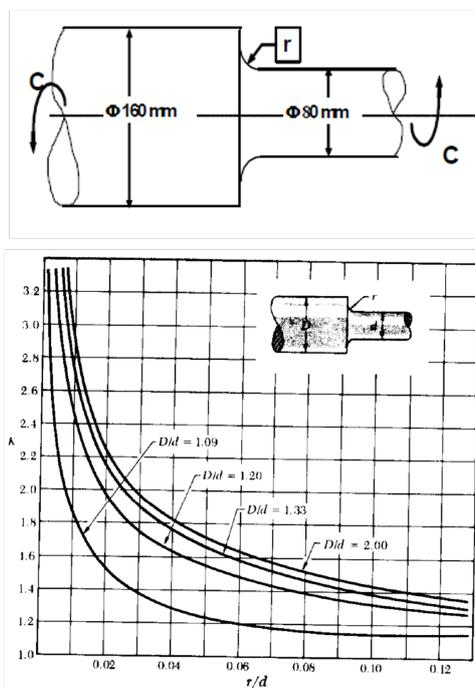

Figure 1: Stress concentration coefficient.
- The stress concentration factor K_t is read from the standard abacus for a stepped shaft in torsion (see Figure 1).